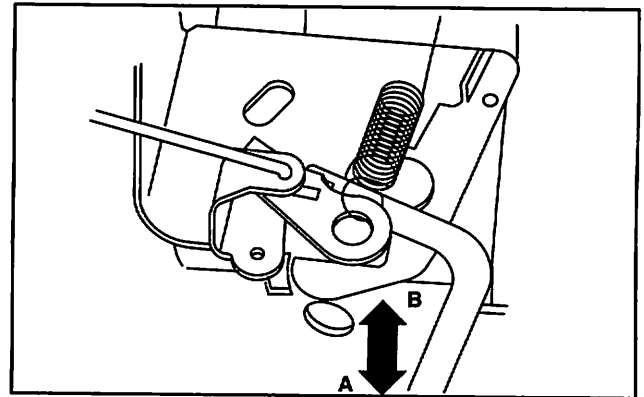

Fig. 55
2. Start engine and adjust Top No Load RPM by turning bending tang to decrease (B) or increase (A), Fig. 55.